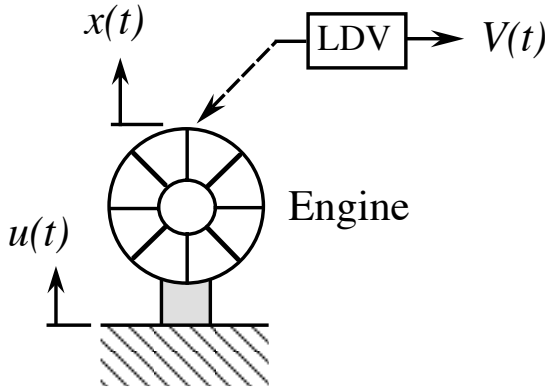

Figure 5: An engine under vibration test
- This is an exam problem from the Spring Quarter of 2004. Figure 5 shows an engine under a vibration test. The engine is subjected to a given base excitation  $u(t)$ , and the displacement of the engine at the top is  $x(t)$ . A laser Doppler vibrometer picks up the displacement and output a voltage  $V(t)$ . During the design phase, engineers have designed the engine so that its transfer function from  $u(t)$  to  $x(t)$  is